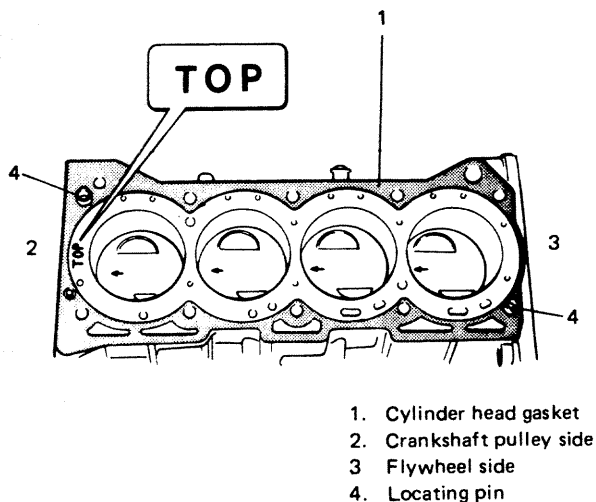

Fig. 3-6-33 Cylinder head gasket installation
- 7) Be sure that locating pins (4) are in place and then install new head gasket as shown in Fig. 3-6-33, namely in such a way that "TOP" mark provided on the gasket comes on top side (toward cylinder head side) and on crankshaft pulley side.